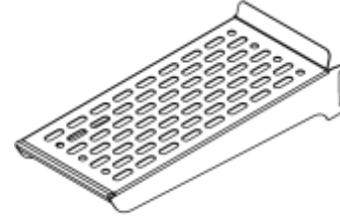

Figure 14
(2) Half width cantilever adjustable shelf. see Figure 14